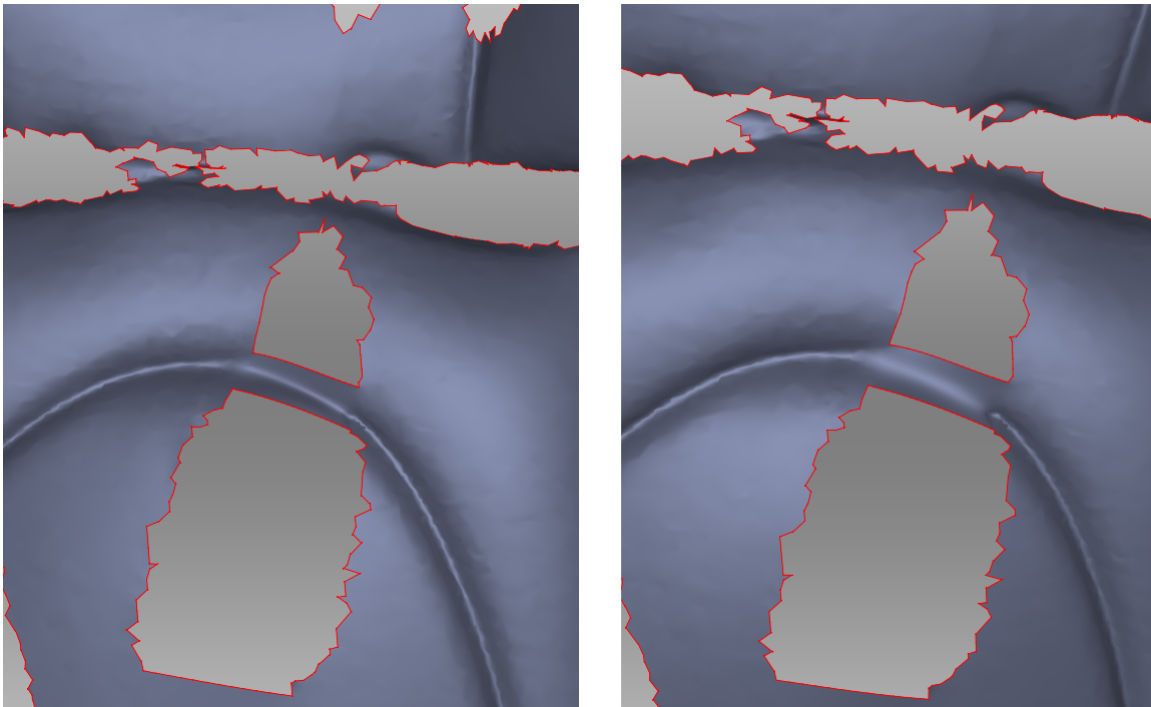

Figure 147: Small smoothness values on left and maximum on right.
- Use small or medium values of the *Bridge smoothness* slider (Figure 147).